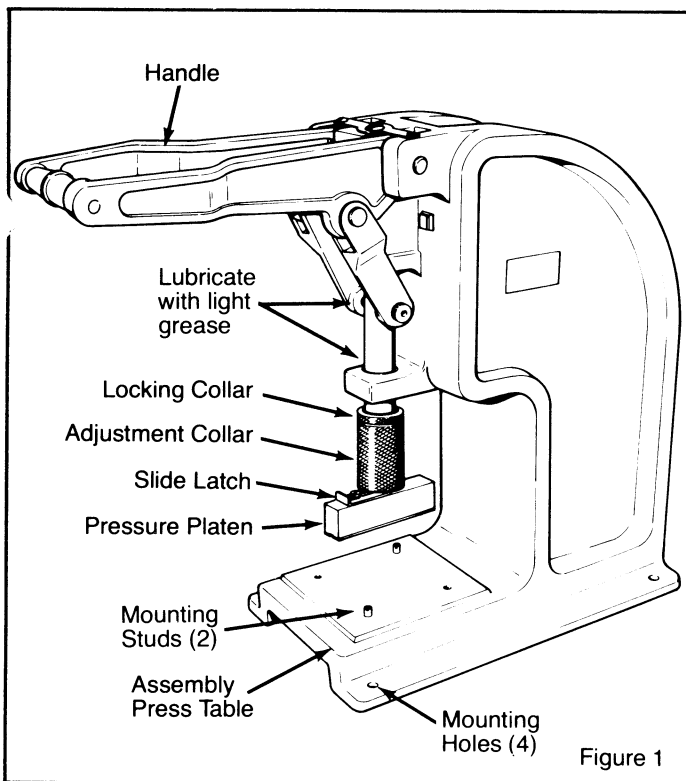

Figure 1
1. Pull back the slide latch and remove pressure platen. (see figure 1)